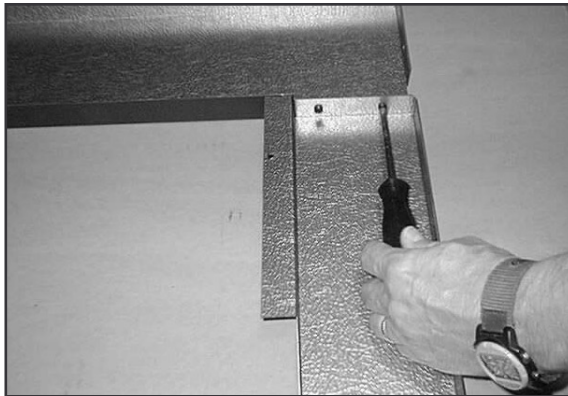
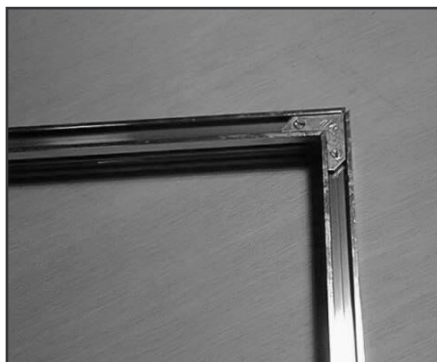

Figure 9 - Assembling Surround
Figure 10 - Assembling Trim
1. Assemble the surround top to the surround sides with the screws provided. See Figure 9. Assemble the gold trim kit with the corner brackets (provided) and slide trim around the surround. See Figure 10.